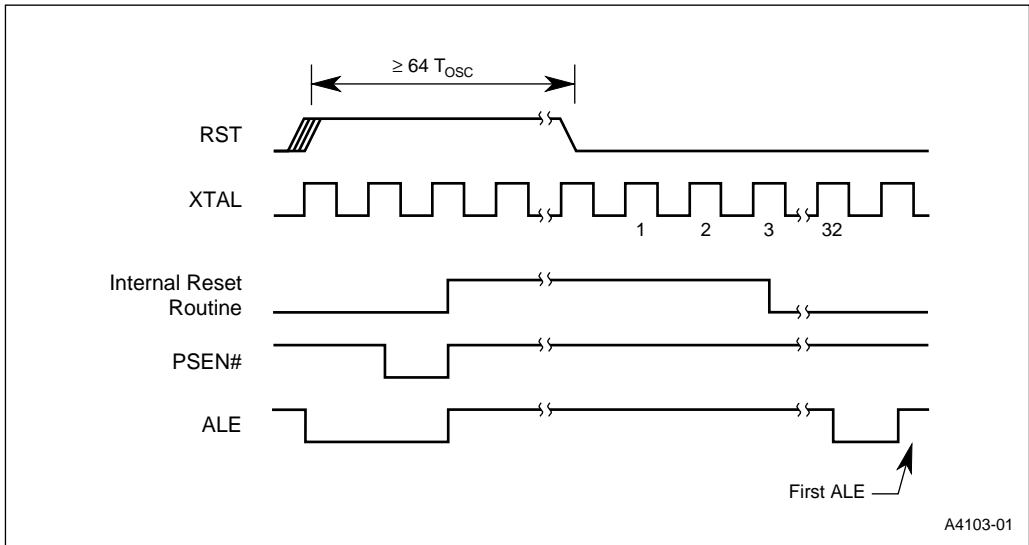

Figure 11-5. Reset Timing Sequence
The CPU checks for the presence of the combined reset signal every $2T_{OSC}$. When a reset is detected, the CPU responds by triggering the internal reset routine. The reset routine loads the SFRs with their reset values (see Table 3-5 on page 3-17). Reset does not affect on-chip data RAM or the register file. However, following a cold start reset, these are indeterminate because V_{CC} has fallen too low or has been off. Following a synchronizing operation and the configuration fetch, the CPU vectors to address FF:0000. Figure 11-5 shows the reset timing sequence.
1. Assert RST to initiate a device reset. See section 11.4.1, “Externally Initiated Resets,” and the reset waveforms in Figure 11-5 on page 11-8.